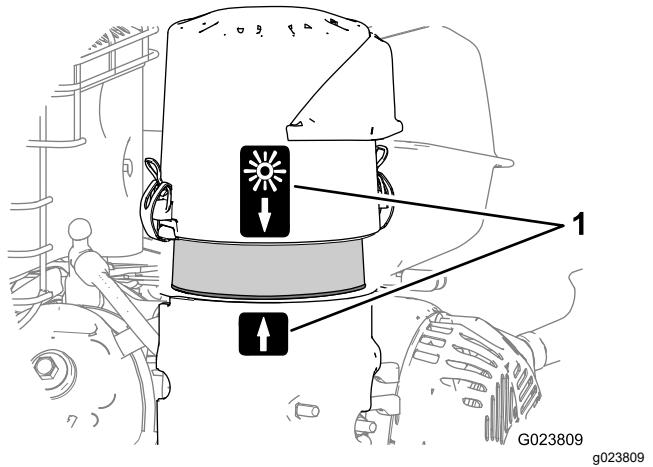

Figure 26
8. Align the arrow decal on the air-cleaner cover and the arrow decal on the base (Figure 26).